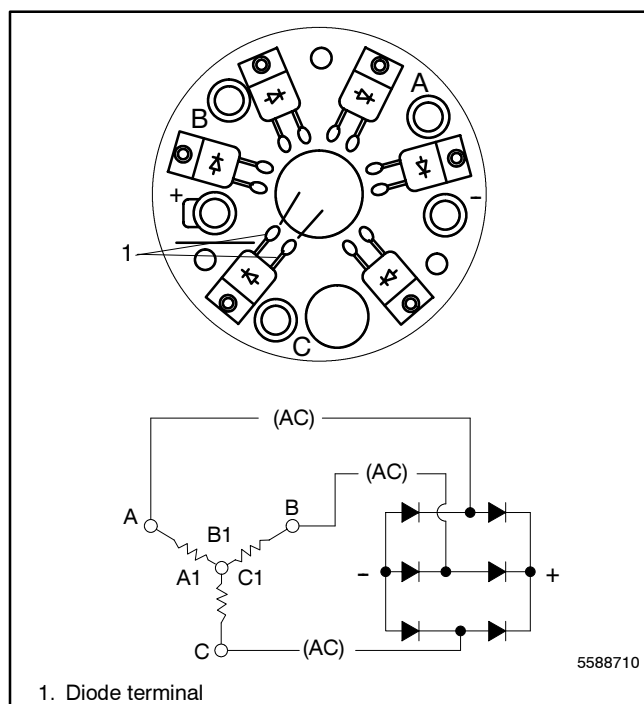

Figure 7-10 Testing Rectifier Module
2. Use an ohmmeter on the R x 100 scale to check the resistance between the rectifier diodes as shown in Figure 7-10. The ohmmeter should show resistance in one direction and, upon reversing the ohmmeter leads, a high resistance in the other direction. Replace the rectifier module if any of the diodes tests differently than described.